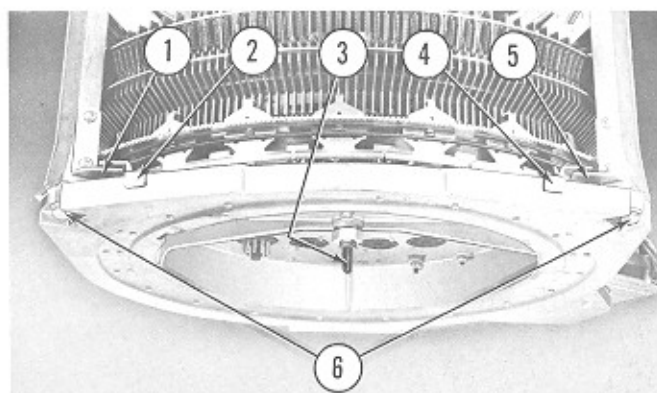
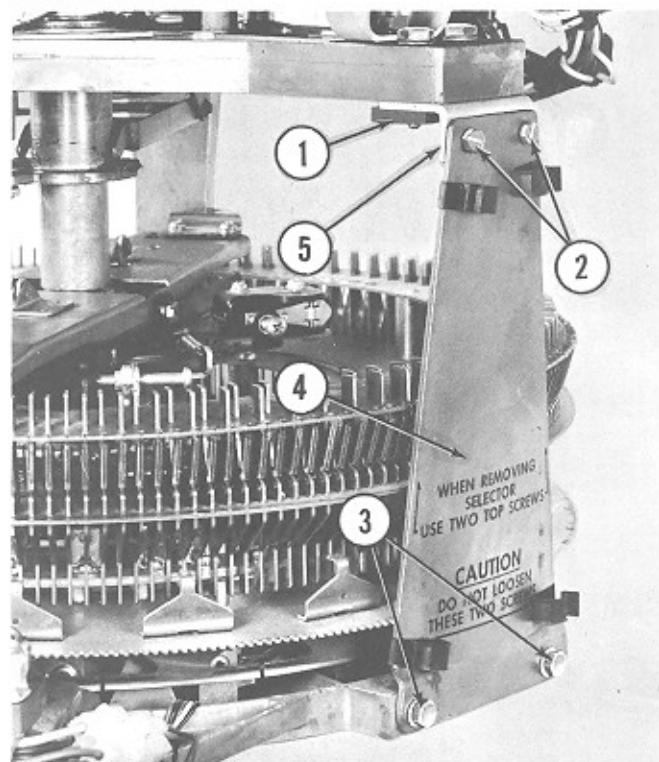
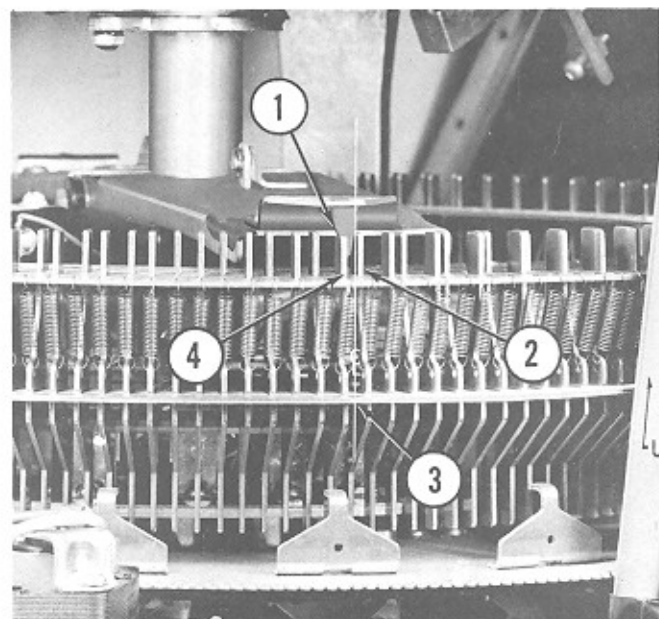
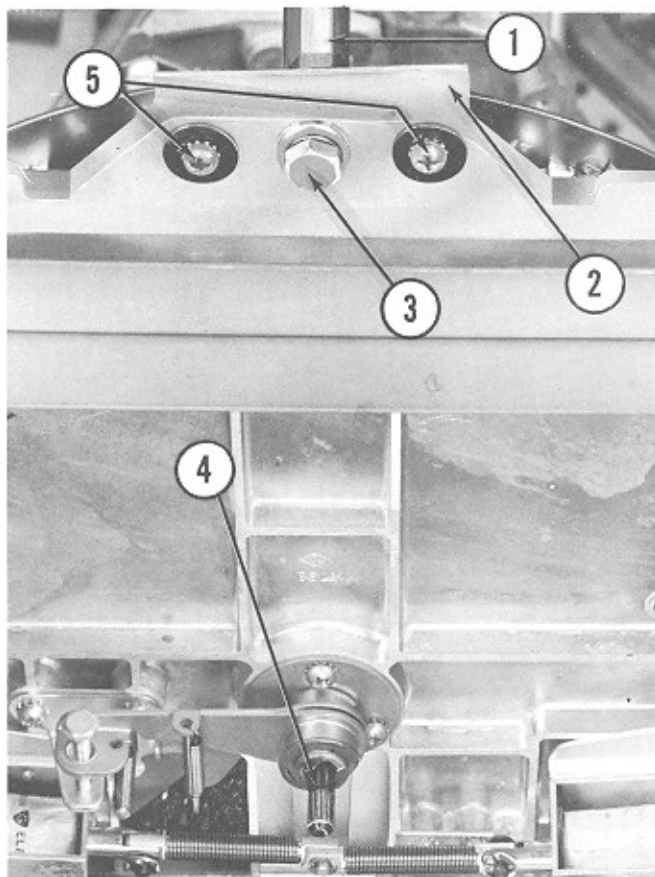

FIG. 25. ELECTRICAL SELECTOR CENTERING - 2800
FIG. 26. ELECTRIC SELECTOR ADJUSTMENT - 2800
FIG. 27. ELECTRICAL SELECTOR ADJUSTMENT - 2800
FIG. 28. CENTERING OF THE 100 SELECTION ELECTRIC SELECTOR - 2810
Centering of the 200 Selector Assembly must be carefully done whenever the unit is removed from the Changer Mechanism. The assembly is held in position by two mounting Screws (Fig. 25, Item 6) and by the Mounting Plate and Silk Screen Assembly (Fig. 26, Item 4) at the rear of the changer.
to the plugs disconnected above should be removed from the cable clips on the Support Plate and Silk Screen Assembly (Fig. 26, Item 4) and placed on top of the chassis mounting plate where they will be out of the work area. Disconnect the four plugs on the bottom of the Electric Selector. Manually rotate the Record Carrier so that the Selector Crank Arms are approximately over A-0 and L-0 selections. Remove the two front Mounting Cap Screws (Fig. 25, Item 6) first, which allows the Electric Selector to rest on the front Guide Brackets (Fig. 25, Items 1 and 5). Loosen the rear upper Mounting Screws (Fig. 26, Item 2). Grasp the rear support plate with one hand below the screws and remove both screws (Fig. 26, Item 2). Lower the Support Bracket and the rear edge of the Electric Selector far enough to clear the rotary contact wipers on the bottom of the main shaft. With the other hand supporting the Electric Selector from underneath, slowly move the Assembly down and to the rear, carefully removing it from the cabinet.
(2) To install the Electric Selector Assembly after servicing, check to see that the Selector Crank Arms are in the same position as for removal of the assembly. Carefully engage the Brackets (Fig. 25, Items 2 and 4) with the Support Brackets (Items 1 and 5). Use caution to avoid damaging the rotary wiper contacts on the bottom of the main shaft. Lift the rear Support Bracket and insert the Mounting Screws (Fig. 26, Item 2), tighten both screws (Fig. 26, Item 2).
Insert the Centering Shaft (Fig. 25, Item 3) through the center bushing in the Electric Selector and into the Main Shaft. NOTE: A No. 2 Phillips Screw Driver may be substituted for the Wurlitzer Centering Shaft.
Install the two front Mounting Cap Screws (Fig. 25, Item 6), turning them in by hand
until the mounting surfaces make contact. While in this loose condition, locate the Electric Selector so that the Centering Shaft (Fig. 25, Item 3) slides freely in and out of the Main Shaft. Carefully maintain this adjustment and tighten the two front mounting screws. As a final test for correct centering of the Electric Selector, insert the Centering Shaft into the main Selector Shaft. One full turn of the Record Carrier in a clockwise direction should cause the Centering Shaft to drop out. If the Centering Shaft does not drop out, the mounting screws should be loosened and the assembly recentered. When centering of the Electric Selector Assembly has been completed, the selector crank arm adjustments should be checked and the mechanism checked for correct selections.
(3) When an Electric Selector Assembly must be exchanged on a 200 selection phonograph, the following procedure should be used:
(a) Mount the Electric Selector in accordance with the steps described in paragraph (2) above to the point where the assembly is centered and the two front mounting screws are loose. Loosen the two bottom screws (Fig. 26, Item 3) which will permit the selector assembly to shift in the elongated mounting holes. Manually turn the Record Carrier until H-1 record compartment is indexed at the left hand Record Lift Arm. Going to the rear of the
phonograph, the Tip and Mounting Bracket, on the selector Crank Arm which engages the inner Selector Pins will be visible to the left of the rear support plate as shown in (Fig. 27, Item 1). While in this position the Electric Selector Assembly may be turned in either direction on its mounting to locate H-1 Selector Pin (Item 2) to the right of the Tip (Item 1) on the Selector Crank Arm. The tip should be approximately on the center line between H-1, the inner pin and H-2 the outer pin, as shown at (Item 3). Maintain this alignment and tighten the lower mounting screws (Fig. 26, Item 3) in the rear support plate. Continue by following the directions under paragraph (2) for centering the Electric Selector and tighten all mounting screws, checking to make sure that the centering shaft will slide freely in and out of the main shaft. Following the installation of a replacement Electric Selector it may be necessary to readjust the Selector Crank Arm Actuating Screw, the Kick-Off Screw and possibly the Selector Crank Clearance and Cancel Lever. These adjustments will be found by referring to the Table of Contents on Page 1 under the heading, Index to Adjustments.
(1) Centering of the Electric Selector Assembly is normally not required if the original unit is retained with its changer. The assembly may be removed by disconnecting all plugs and removing three screws, one of which is shown in (Fig. 28, Item 3). The Guide Plate (Item 2) held by the Screws (Item 5) should not be loosened. However, where Electric Selector Assemblies are interchanged the three Guide Plates, one of which is shown in (Fig. 28,
Item 2), should be loosened. The Assembly should be loosely mounted on the Studs (Item 1) so that the mounting surfaces make contact. Manually rotate the record carrier until D-5 record compartment is indexed over the left hand record lift arm. Insert the Centering Shaft (Fig. 28, Item 4) or a No. 2 Phillips Screw Driver, through the center bushing as shown and into the main shaft. Turn the Electric Selector Assembly to locate D-5 selector pin to the right of the Tip (as viewed from the rear) (Fig. 27, Item 2) on the selector crank arm. The tip should be approximately on the center line between D-5 and D-6 the outer pin. Tighten the Screws (Fig. 28, Item 5) in the three alignment plates and the three Mounting Screws (Item 3). Check the selector crank arm adjustments and check for correct selections.